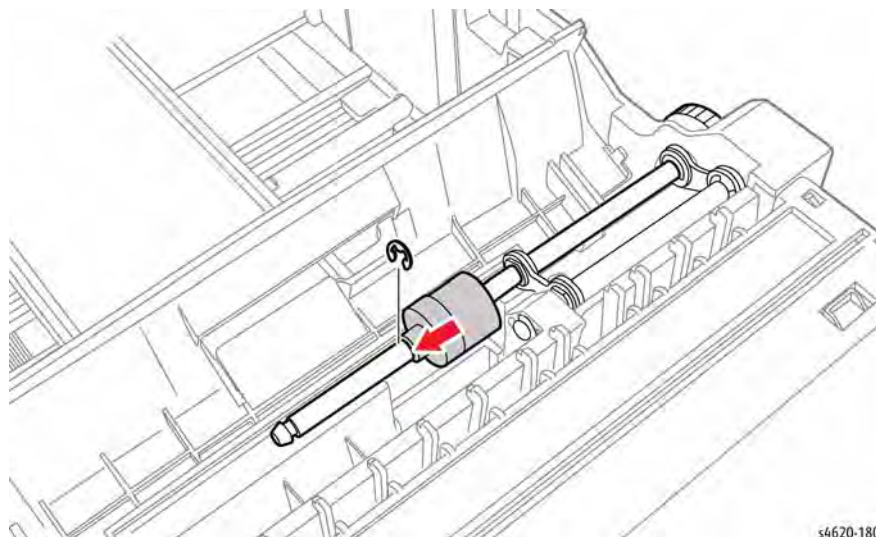

Figure 1 Remove the Separator Clutch
4. Remove the E-clip that secures the clutch to the shaft and slide the clutch off the shaft, Figure 1.